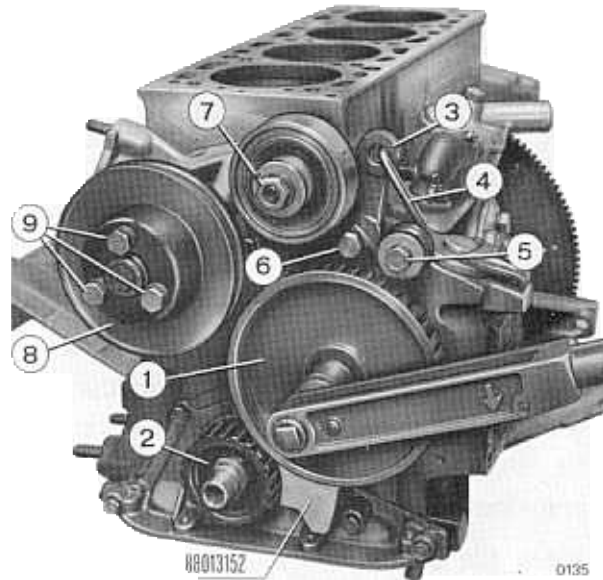

Fig. 01 3/37 - Front of engine block with ancillary units drive gear locking tool 88013152.
breather pipe after fitting a new gasket; refit the cover (3) (fig. 01 3/31).